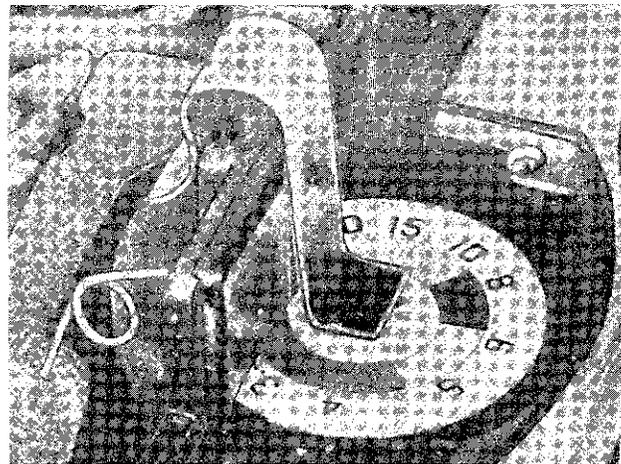

Figure 17. Focusing Dial Retaining Clip
d. Hold the sector gear teeth in alignment with a thin blade screwdriver and assemble the dial pinion (6, figure 5). Use the focusing dial retaining clip (11, figure 1 and figure 17) to keep the pinion in mesh with the sector gears.
e. Focusing dial travel, controlled by the sector gear movement, is checked and adjusted with a cut out dial (13, figure 1) and either the segment pin adjusting tool (8) or the pin driver (14). Position the cutout dial over the pinion so that the infinity mark (∞) lines up with the casting index. Press the dial on the pinion and use the focusing dial retaining clip (figure 17) to keep the pinion in mesh with the sector gears. Move the focusing arm to rotate the cutout dial to the "3" feet mark. If the "3" feet does not center on the casting index, it will be necessary to bend the focusing arm segment pin.